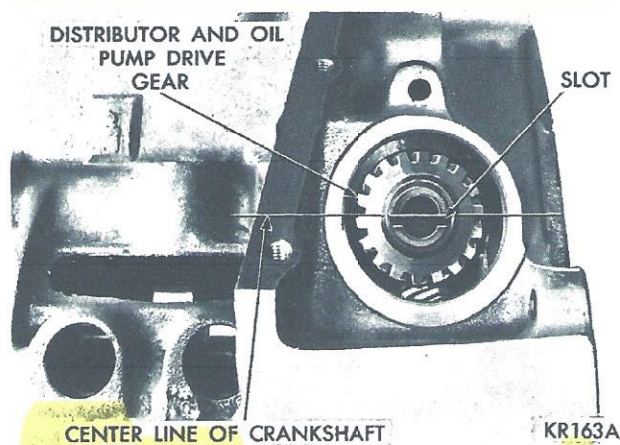

Fig. 34—Distributor Drive Gear Installed
- (1) Rotate crankshaft until NO. 1 cylinder is at top dead center on the firing stroke.
- (2) When in this position, the straight line on the vibration damper should be under "O" on timing indicator.
- (3) Coat shaft and drive gear with engine oil. Install the shaft so that after gear spirals into place, it will index with the oil pump shaft, so slot in top of drive gear will be parallel with center line of crankshaft (Fig. 34).